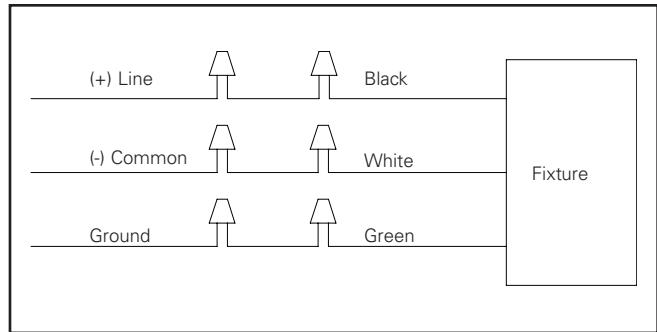

Figure 10.
9. Connect luminaire leads to leads within pole mount arm using provided wire nuts (Figure 10.):
10. Connect pole mount leads within pole to supply wires (Figure 10.):